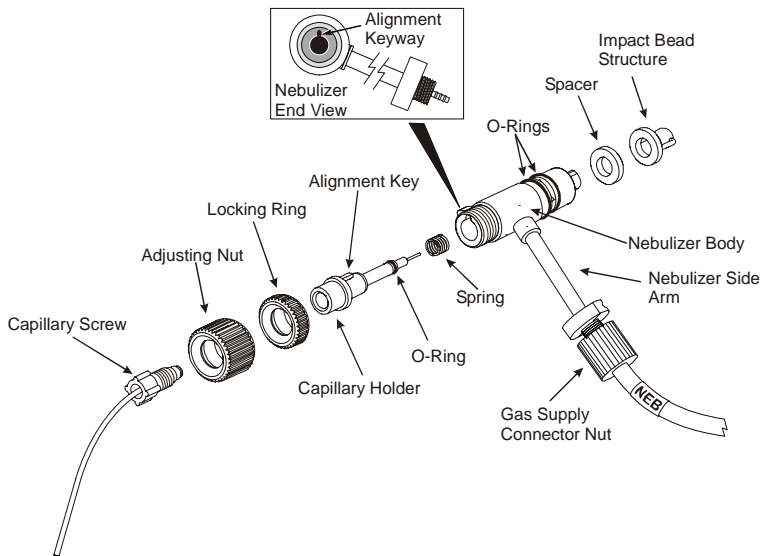

Figure 3 Exploded View of the Nebulizer
To maintain optimum nebulizer performance, you must periodically clean the capillary holder assembly, and occasionally replace the capillary (sample) tubing. See Figure 3 for an exploded view of the nebulizer.
- First loosen the connector nut (P/N N037-1485), see Figure 3 Exploded View of the Nebulizer.
6. Refer to Figure 3. Loosen and remove the adjustment nut (P/N 037-1492).